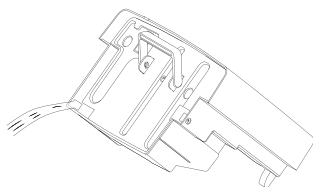

Fig. 2
- ◆ Pour out the water through the opening in the lid (see figure 2) and replace the water tank ❸ in the appliance. The appliance resumes operation with the previously selected programme.